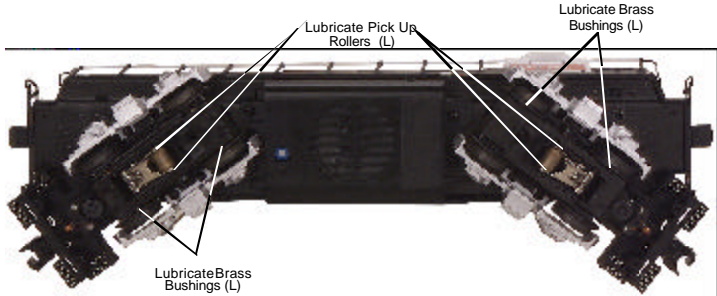
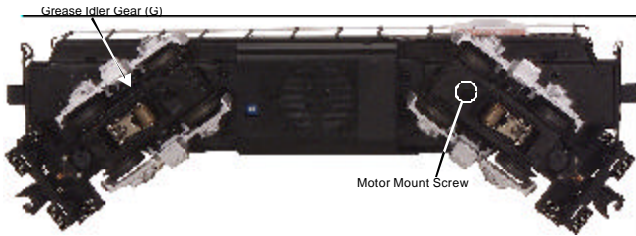

Figure 5. Lubrication Points on the Locomotive
Figure 7. Locations of Greasing Points on the Locomotive
1. Although the engine was lubricated at the factory, it is important that you lubricate the chassis before operation. Lightly grease the outside idler and drive gears (marked “G” in Fig. 7 on pg. 13 ) with lithium-based grease to prevent them from squeaking and premature wear. Use light household oil and follow the lubrication points (marked “L” in Fig. 5 on pg. 12). Do not over-oil. Use only a drop or two on each pivot point.
You should regularly lubricate the engine to prevent it from squeaking. Use light household oil and follow the lubrication points marked “L” in Fig. 5. Do not over-oil. Use only a drop or two on each pivot point.
2. Once the body is removed, remove the trucks by unscrewing the black Phillips motor mount screw located on the underside of the drive trucks (see Fig. 7 on pg. 13).
Lubricate the outside truck block idler and drive gears with grease. Use the diagram shown in Figure 7 above as a guide and add grease to the points marked with a “G.”